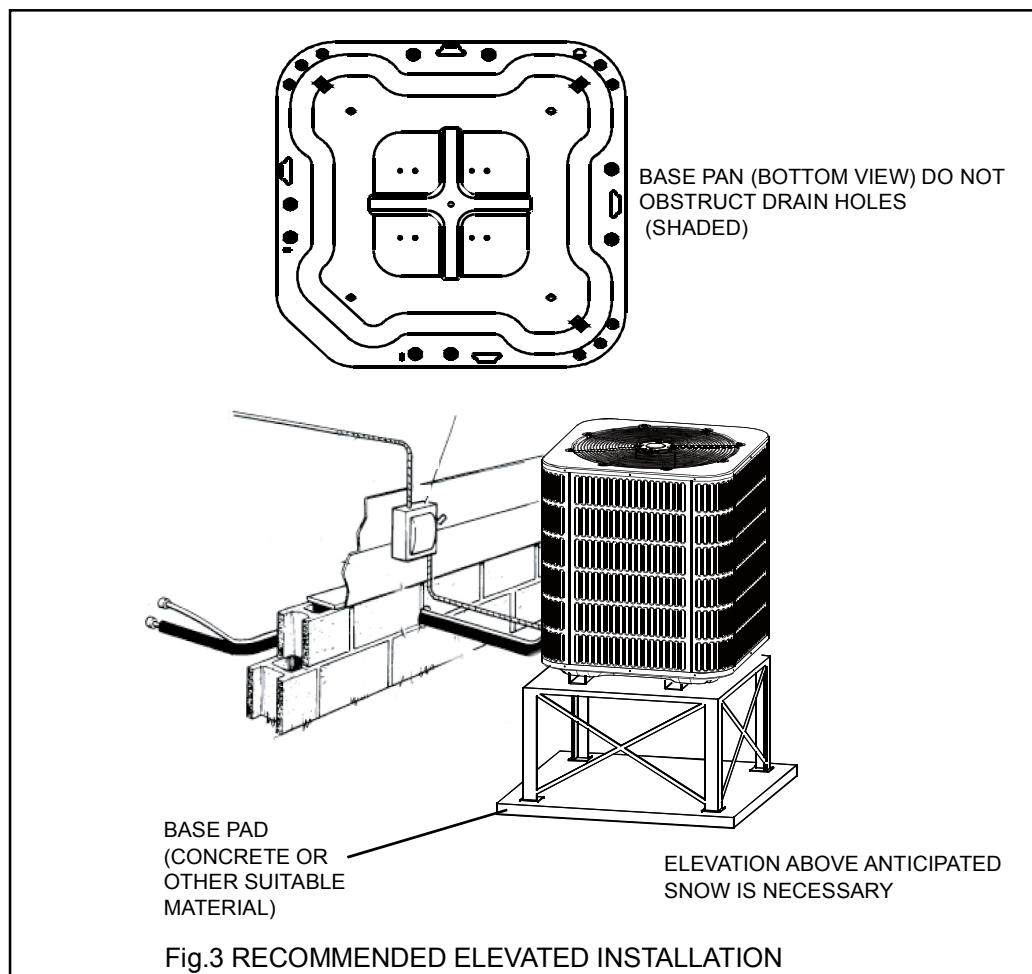

Fig.3 RECOMMENDED ELEVATED INSTALLATION
2. If elevating a unit on a flat roof, use 4"× 4" (or equivalent) stringers positioned to distribute unit weight evenly and prevent noise and vibration (See Fig.3).
NOTE: Do not block drain openings shown in Fig.3.